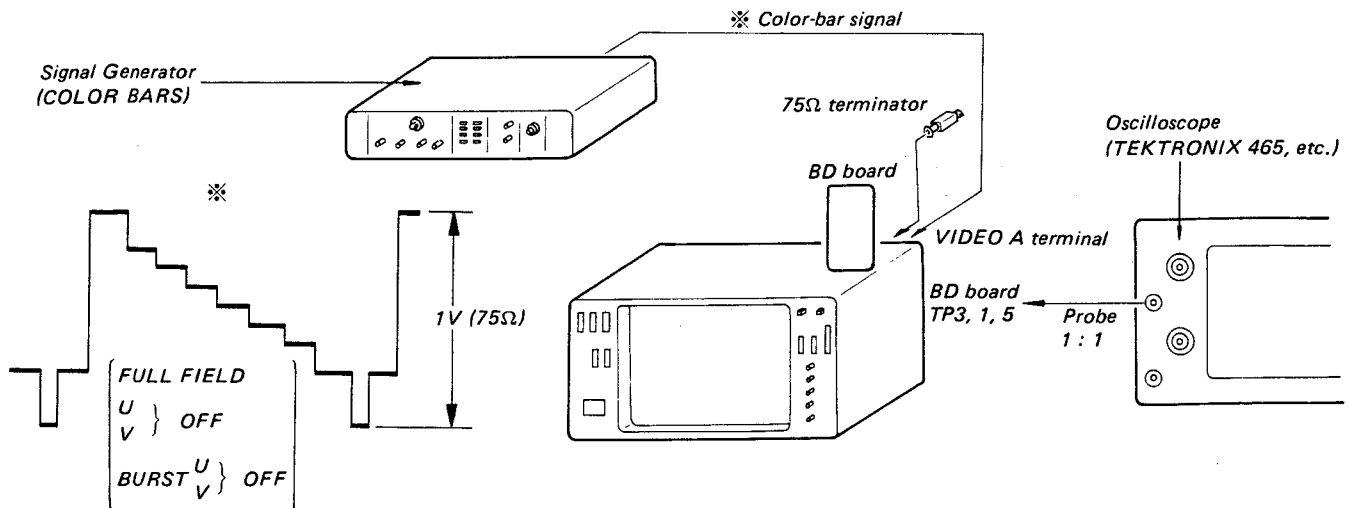

Fig. 5-138.
1. Complete the connections as shown in Fig. 5-138.